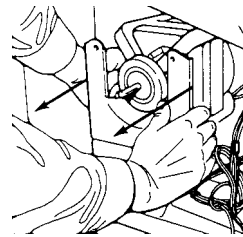

Fig. 27
4. Slide motor to right, out of slots, and pull forward out of dryer. (Fig. 27)